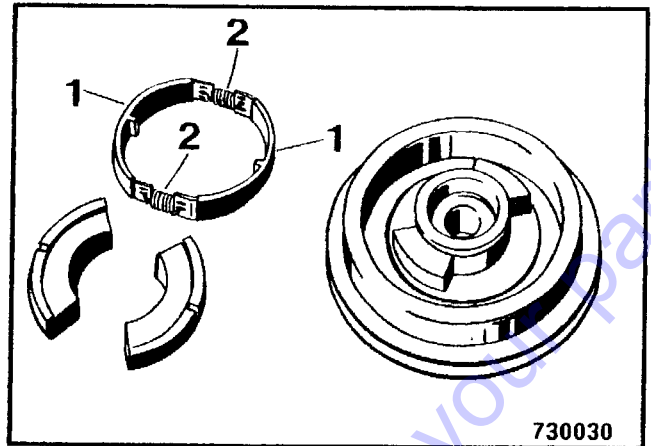

Fig. 3
- Always change the lining shoes 1 (Fig. 3) completely with the springs (2).